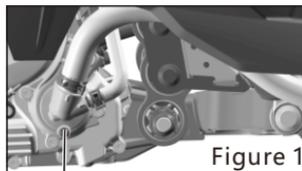

Figure 1
- Remove the water drainage bolt (Figure 1), because all the heat radiation system is connected, so all the coolant may flow out from this port.